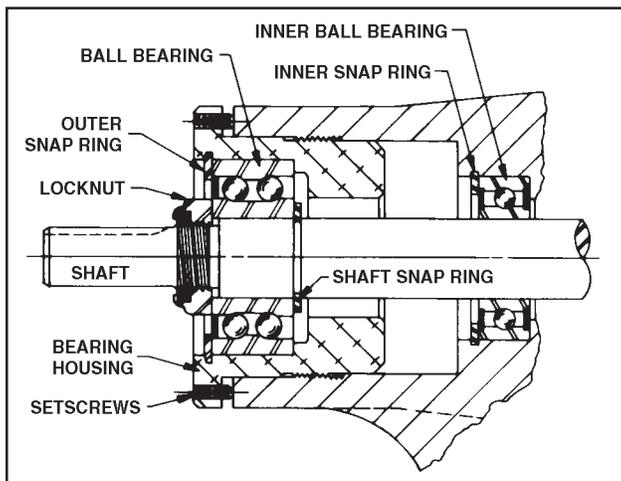
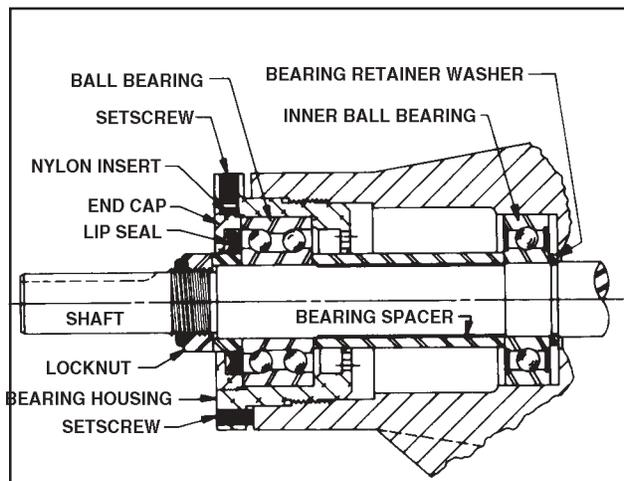

Figure 20 - Thrust-Bearing assembly (GG, HJ, HL)
Figure 21 - Thrust-Bearing assembly (AS, AK, AL)
5. Insert a brass bar or piece of hardwood in the port opening and between rotor teeth to keep shaft from turning. Turn the locknut counterclockwise and remove locknut. See Figure 20 or 21.
6. Loosen two setscrews in face of bearing housing and turn thrust bearing assembly counterclockwise and remove from casing. See Figure 20 or 21.
7. **GG, HJ, HL:** Remove snap ring from shaft. See Figure 20. **AS, AK, AL:** Remove bearing spacer from shaft. See Figure 21.
10. **AS, AK, AL:** Remove bearing retainer washer. The washer may have stayed with rotor and shaft when removed or is against ball bearing. See Figure 21.
GG, HJ, HL: Remove outer snap ring from bearing housing and remove ball bearing. See Figure 20.
AS, AK, AL: Loosen two set screws in flange outside diameter. Rotate end cap and lip seal counterclockwise and remove. Remove ball bearing. See Figure 21.
AS, AK, AL: Install bearing spacer over shaft and against single row ball bearing. See Figure 21.
13. **Pack lubrication chamber between** inner ball bearing and double-row ball bearing in the thrust-bearing assembly approximately one-half full of multipurpose grease, NLGI #2. The thrust-bearing assembly will take the remaining space. See Figures 20 and 21.
GG, HJ, HL: Install ball bearing into bearing housing with shield side toward coupling end of shaft. See Figure 20. Install snap ring into bearing housing to retain ball bearing.
AS, AK, AL: Install ball bearing into bearing housing. Install lip seal in bearing housing end cap. The lip should face towards end of shaft. Put bearing spacer collar in lip seal and install in bearing housing and tighten setscrews securely. See Figure 21.
See Figures 20 and 21.